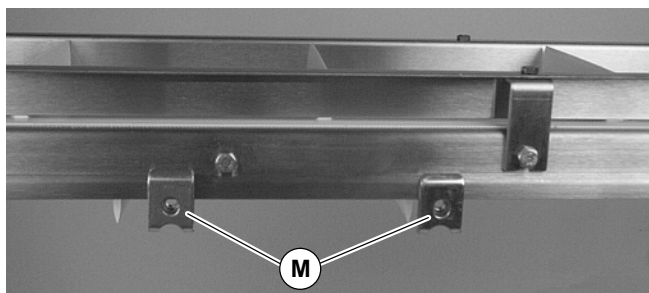

Figure 12
10. Attach mounting clips (M of Figure 12) to conveyor.